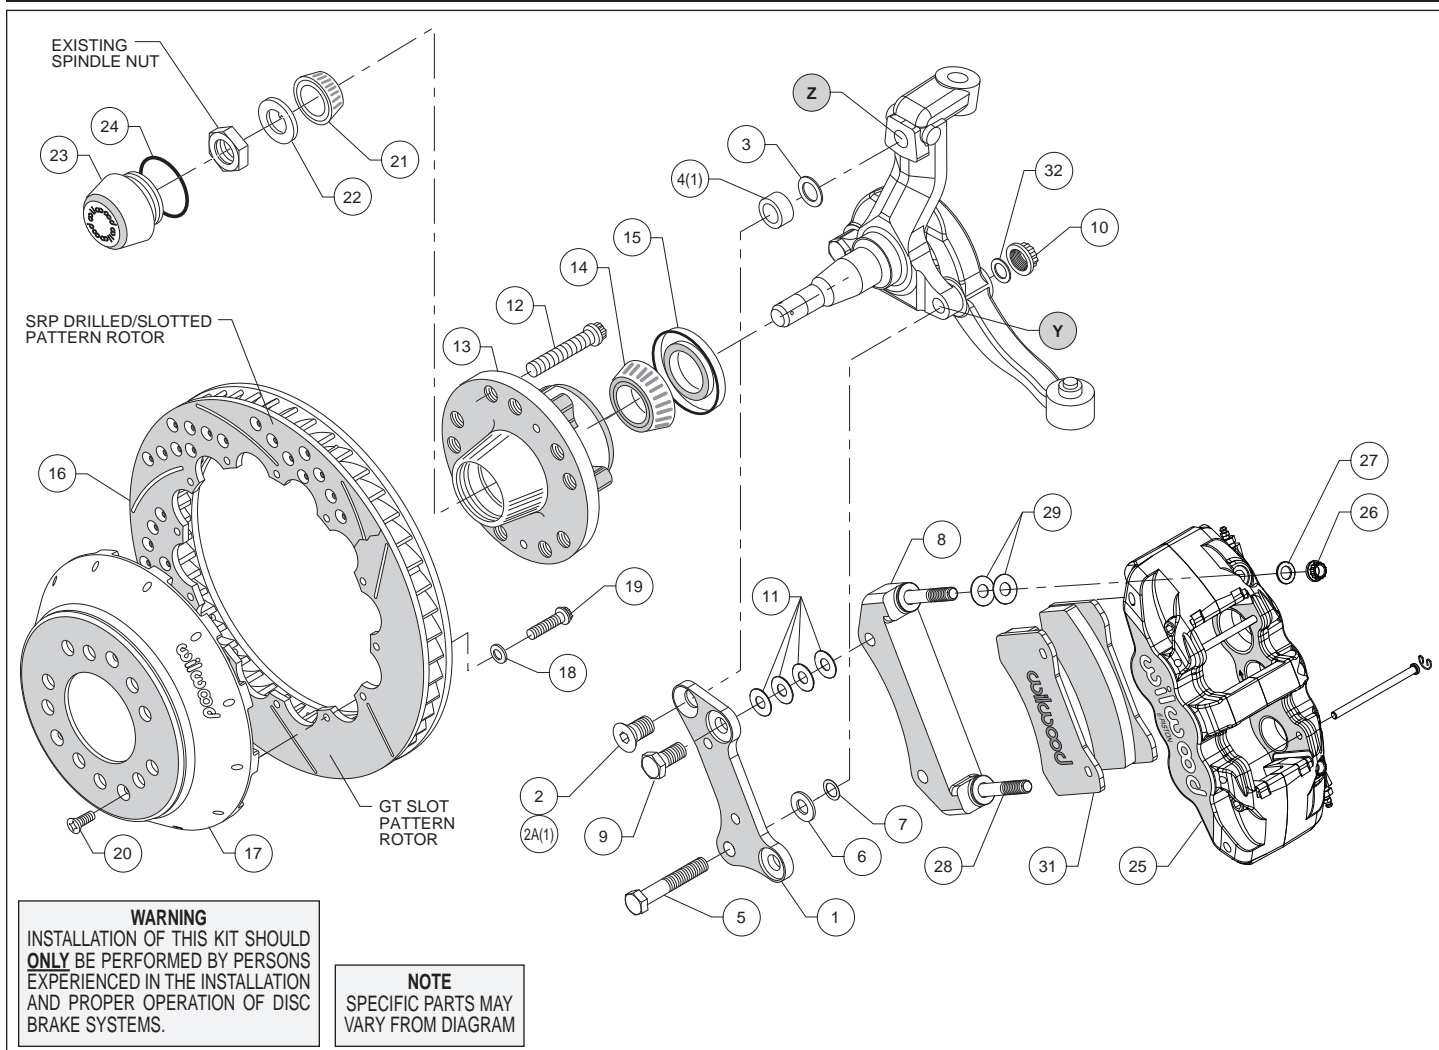
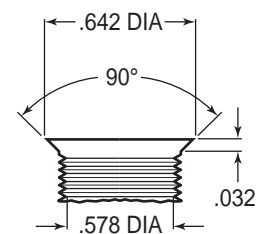
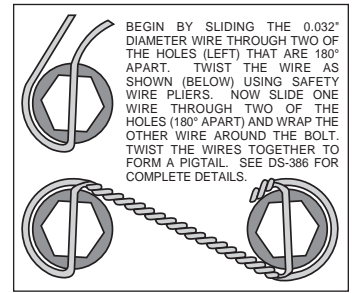

Figure 1. Typical Installation Configuration
Figure 3. Drill and Tap Detail
Figure 4. Safety Wire Diagram
Assembly Instructions (numbers in parenthesis refer to the parts list, and Figure 1 on the preceding pages):
- NOTE:** 1964-65 spindles may require the following modifications (reference Figures 1 and 3): Top anchor pin hole (Z) must be drilled and tapped to the dimensions as outlined in Figure 3. Bottom rear steering arm bolt hole (Y) in the spindle and steering arm must be enlarged to .50" by drilling.
- Install wheel studs (12) into the hub (13), Photo 1. Torque to 77 ft-lb. **NOTE:** There are two five lug patterns in the hub (5 x 4.50 and 5 x 4.75). Ensure the correct hub stud pattern is being used to fit the wheel application.
- Pack the large inner bearing cone (14) with high temperature disc brake bearing grease (available from your local auto parts store) and install into the backside of the hub (13), Photo 2.
- Install the grease seal (15) by pressing into the backside of the hub (13), flush with the end of the hub, Photo 2.
- Orient the rotor (16) and the hat (17) as shown in Figure 1 and Photo 3. Attach rotor to hat using bolts (19) and washers (18). Using an alternating sequence, apply red *Loctite*® 271 to the threads, and torque to 155 **in-lbs**. For an added measure of security, the bolts may be safety wired using standard 0.032 inch diameter stainless steel safety wire as shown in Figure 4. Please refer to Wilwood's data sheet DS-386 (available at www.wilwood.com/Pdf/DataSheets/ds386.pdf) for complete safety wire installation instructions.
- Attach caliper mounting bracket (1) to spindle face using lower bolt (5), and a .090" thick spacer (6) positioned between the bracket and the spindle face, as shown in Figure 1. Secure bolt on the backside of the steering arm with washer (30) and lock nut (10). Finger tighten. Install upper bolt (2) (for drum spindle) or bolt (2A) with spacer (4) between bracket and spindle (for disc brake spindle). Ensure that the flanged heads of the clinch nuts in the bracket are facing outboard. Temporarily tighten the mounting bolts and install the new hub (13) and rotor assemblies
(16/17). Check that the bracket is aligned parallel to the rotor, Photo 4. If not, adjust by adding shim washers (3 and/or 7) between spacers (4 and/or 6) and the bracket, Figure 1. Once the bracket alignment is correct, remove the upper bolt (2 or 2A), apply red *Loctite*® 271 to bolt threads, and torque to 120 ft-lb. Torque lock nut (10) to 65 ft-lb.
- The radial mount caliper bracket (8) should initially be installed with clean dry threads on the mounting bolts. Orient bracket as shown in Figure 1, and install using bolts (9). Initially place four shims (11) on each bolt between the two brackets. Temporarily tighten the mounting bolts. Later, after the caliper alignment has been checked, the mount bolts will be secured using red *Loctite*® 271.
- Pack the small outer bearing cone (21) with high temperature disc brake bearing grease and install into hub (13). Final install the hub assembly onto the spindle. Secure using spindle washer (22), and OEM spindle nut, Photo 5. Adjust bearings per OEM specifications. Install new cotter pin (not included).
- Final install the hat/rotor (16/17) onto the hub (13) taking care to align the small countersunk holes in the hat with the small threaded holes in the hub. **NOTE:** The hat must fit flush against the hub face or excessive rotor run out may result. Install three flat head screws (20) through the small holes in the hat (17), Photo 7, and torque to 85 in-lb.
- NOTE:** This kit contains distinct right and left hand calipers that must be mounted in a specific direction, as described below. Lubricate the caliper mounting studs (28) with lightweight oil. Initially place two .030" thick shims (29) on each stud between the caliper and the bracket, as shown in Figure 1 and Photo 8. Mount the caliper (25) onto the bracket (8) using lock nuts (26) and washers (27), Figure 1. Ensure that the caliper is mounted so the largest pistons are at the rotor exit end of the caliper, in relation to the direction of rotor rotation. Temporarily tighten the lock nuts and view the rotor through the top opening of the caliper. The rotor should be centered in the caliper, Photo 9. If not, adjust by adding or subtracting shims (11) between the flat bracket and the radial mount bracket. Always use the same amount of shims on each of the two mounting bolts. Once the caliper alignment is correct, remove the radial mount bracket bolts one at a time, apply red *Loctite*® 271 to the threads, and torque to 77 ft-lb.
- Remove the two pad retaining pins from the caliper (25) by carefully popping out the pin retaining clips and sliding out the pins. Insert the brake pads (31) into the caliper from the bottom, Figure 1, Photo 10. With the friction material facing the rotor, secure the brake pads in place with the pad retaining pins and clips, Photo 11. Reinstall the caliper onto the caliper mounting bracket and temporarily tighten the lock nuts. Check that the top of the brake pad is flush with the outside diameter of the rotor, Photo 12. If not, adjust by adding or subtracting shims (29) between the caliper and the bracket. After the caliper pad height is set, torque the caliper lock nuts (26) to 47 ft-lb.